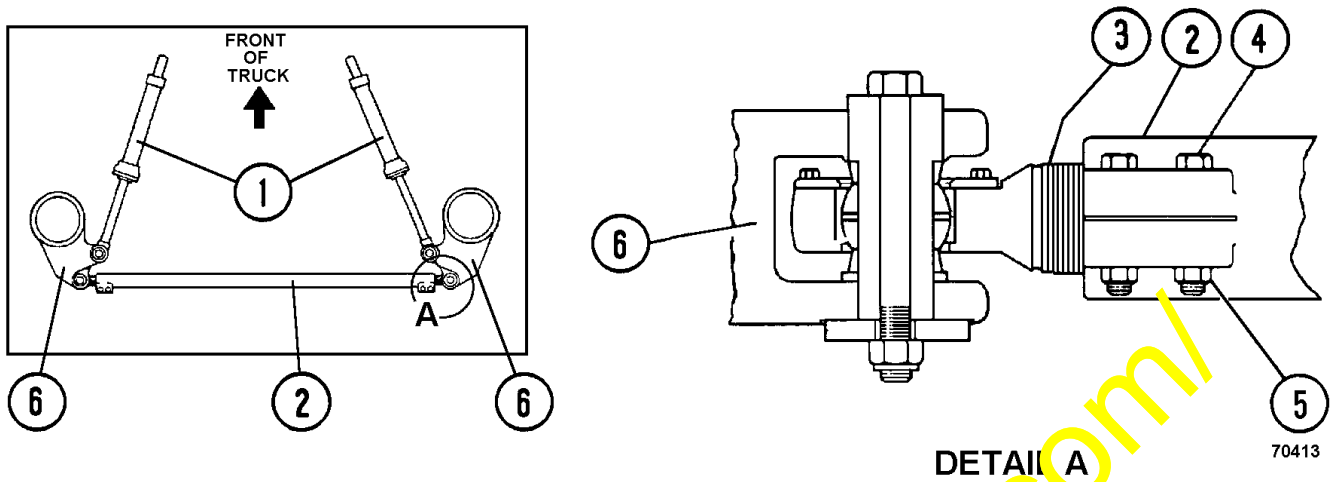

FIGURE 1. TYPICAL TIE ROD ASSEMBLY
The tie rod has been installed with capscrews (4, Figure 1) at the rod end in order to allow toe adjustments. Komatsu requires that tie rod capscrews (4) be inspected and tightened at each 250 hour maintenance interval. All tie rod assemblies are assembled with 3/4" - 10NC X 4" G8 capscrews (VN9140).